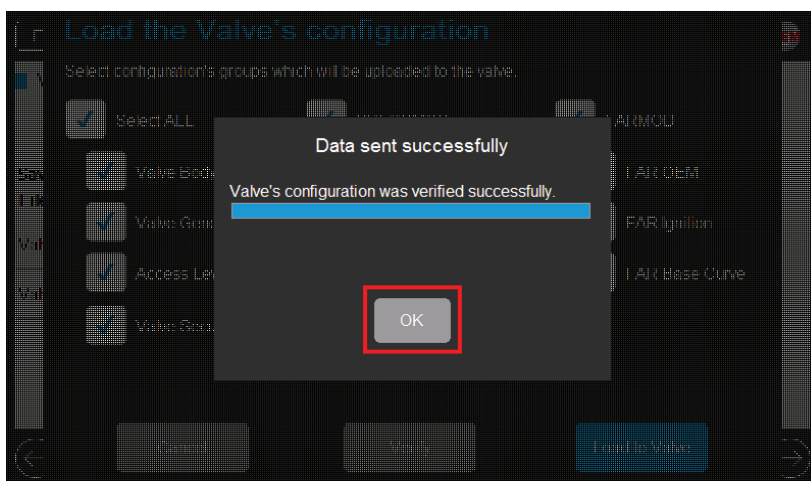
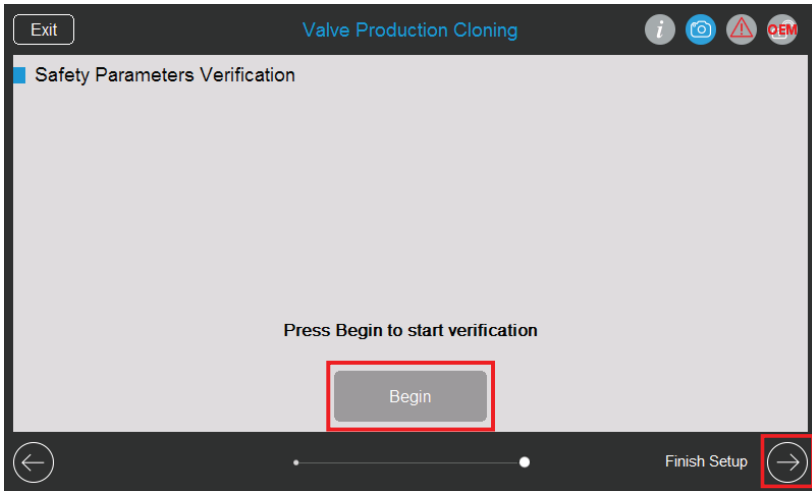
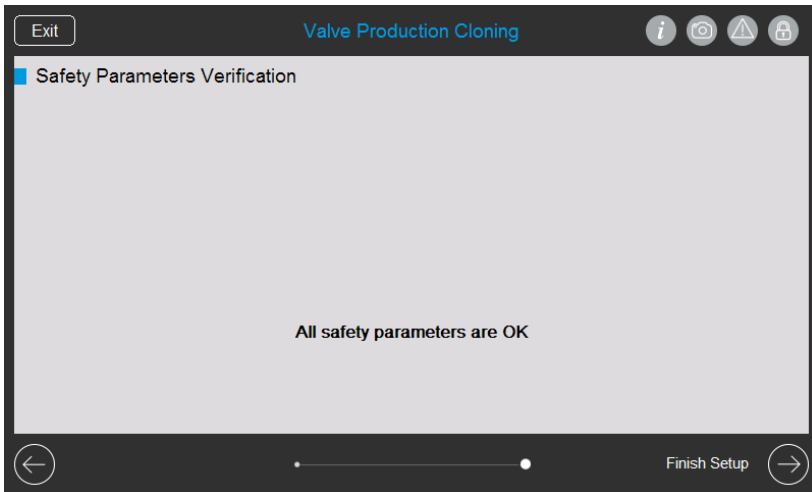

Fig. 107: Load valve configuration successful completion.
Fig. 108: Safety Parameters Verification page.
Fig. 109: Safety Parameters Verification completed.
7. Once the data is successfully sent and verified, the text 'Data sent successfully' is displayed at the top of the progress bar. Refer to Fig. 107.
8. Select the 'OK' button (Fig. 107) to proceed to the 'Safety Parameters Verification' step (refer to Fig. 108 and Fig. 109).